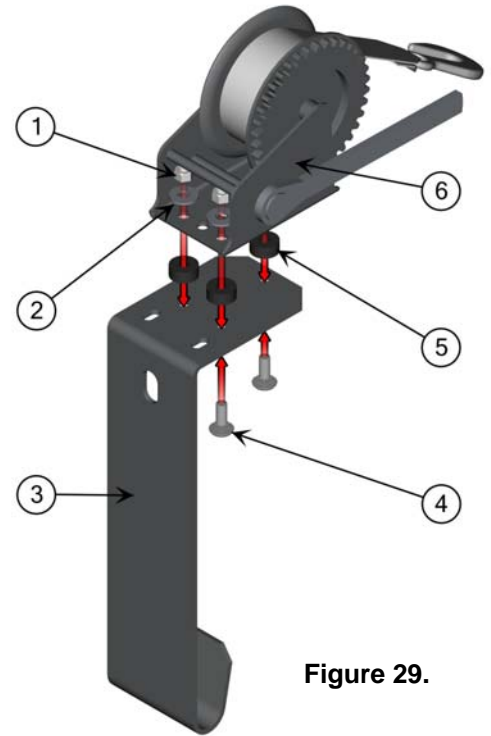

Figure 29.
First, assemble the winch kit (Figure 29):
1. Once the winch is assembled, place it on the EZ BoatPort by inserting the winch attachment bracket (Figure 29 Item 3) of the winch assembly (Item 3) into the middle bottom pocket of the EZ BoatPort and rotate it toward the port.
2. Secure the winch kit by placing two (2) washers (Item 2) over the slotted holes and inserting two (2) 1" bolts (Item 1) into the corresponding t-nut locations on the EZ BoatPort.